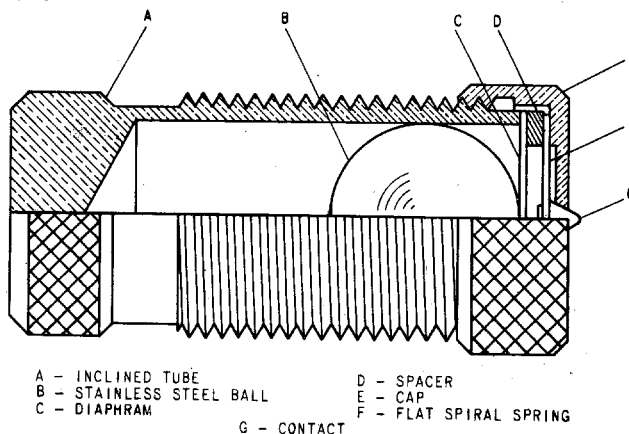

Fig. 8 Contact Assembly for Induction Cup Relays
The contacts of the relay (Figure 8) are specially constructed to suppress bouncing. The stationary contact (G) is mounted on a flat spiral spring (F) backed up by a thin diaphragm (C). These are both mounted in a slightly inclined tube (A). A stainless steel ball (B) is placed in the tube before the diaphragm is assembled. When the moving contact hits the stationary contact, the energy of the former is imparted to the latter and thence to the ball, which is free to roll up the inclined tube. Thus, the moving contact comes to rest with substantially no rebound or vibration. To change the stationary contact brush, remove the contact barrel and sleeve as a complete unit after loosening the screw at the front of the contact block. Unscrew